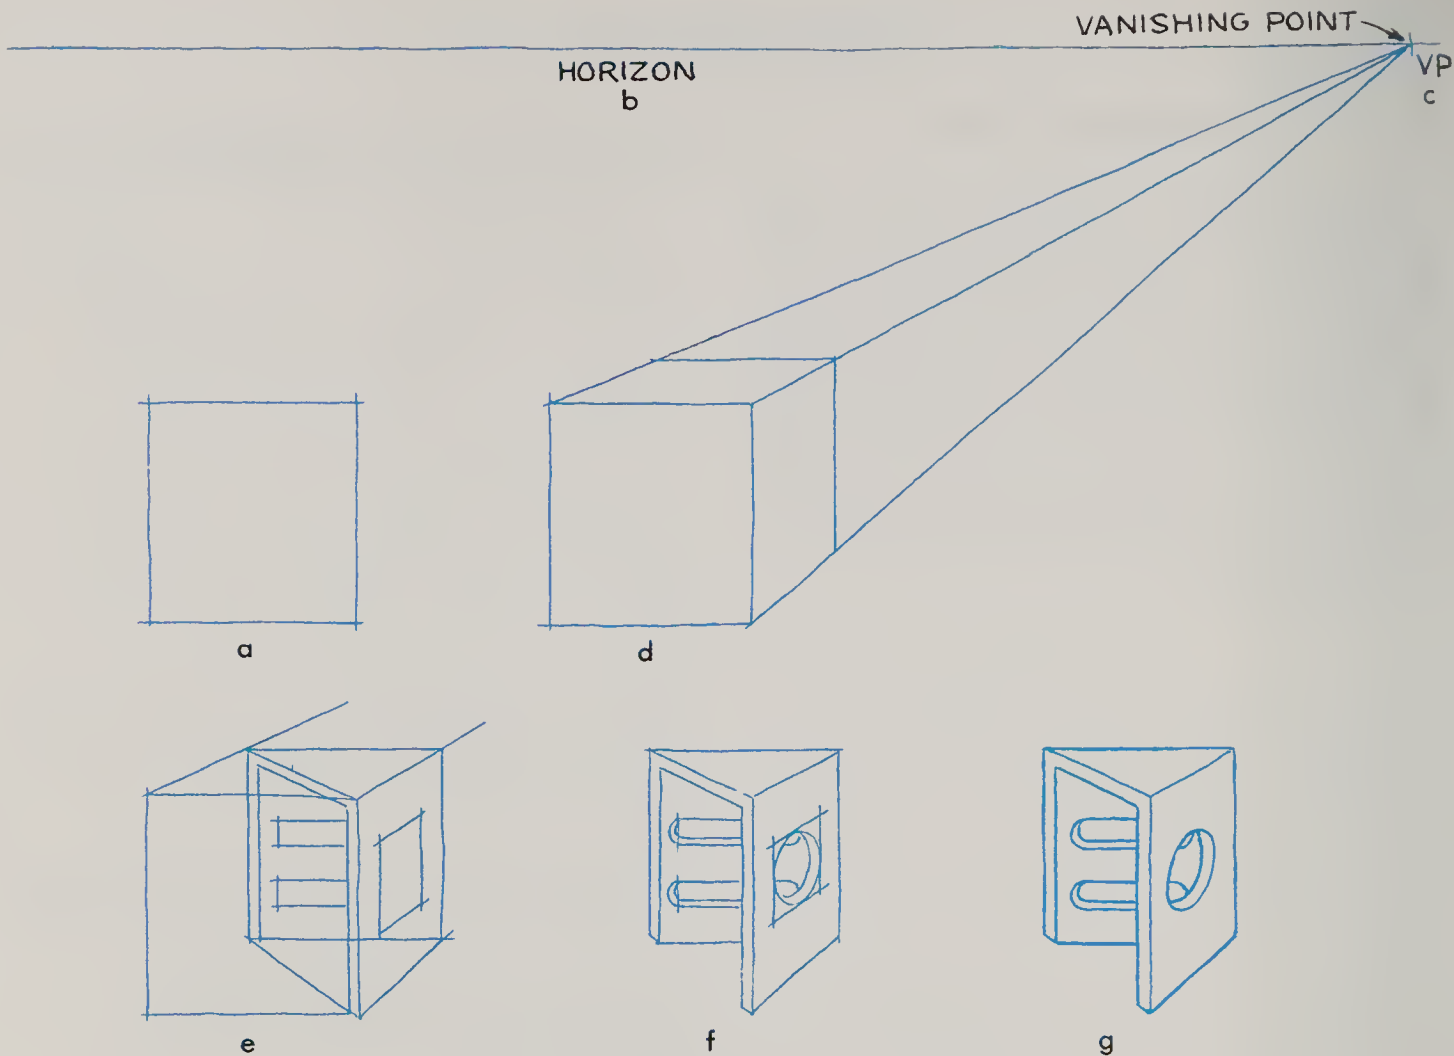

Fig. 13-14. Steps in sketching a parallel or single-point perspective.
1. Sketch the front view in its true size and shape as in an orthographic sketch, Fig. 13-14(a).
2. Sketch horizontal line (called Horizon) at the assumed eye level of the viewer. This line may be above, behind or below the object, depending on how you want to view the object, Fig. 13-14(b).
3. Select vanishing point (VP) on the horizon as far to the right or left as desired, Fig. 13-14(c).
4. Sketch lines from front view to VP, Fig. 13-14(d).
5. Enclose object in "box" by sketching rear vertical and horizontal lines, Fig. 13-14(d). To estimate depth of side and top view, reduce these distances by about one-half and adjust until it pleases the eye.
6. To sketch slant lines, locate their end points on the perspective axes and sketch lines between, Fig. 13-14(e).
7. Block in features such as slots and holes, Fig. 13-14(e).
8. Sketch circles and arcs, Fig. 13-14(f).
9. Darken visible lines and erase construction lines, Fig. 13-14(g).